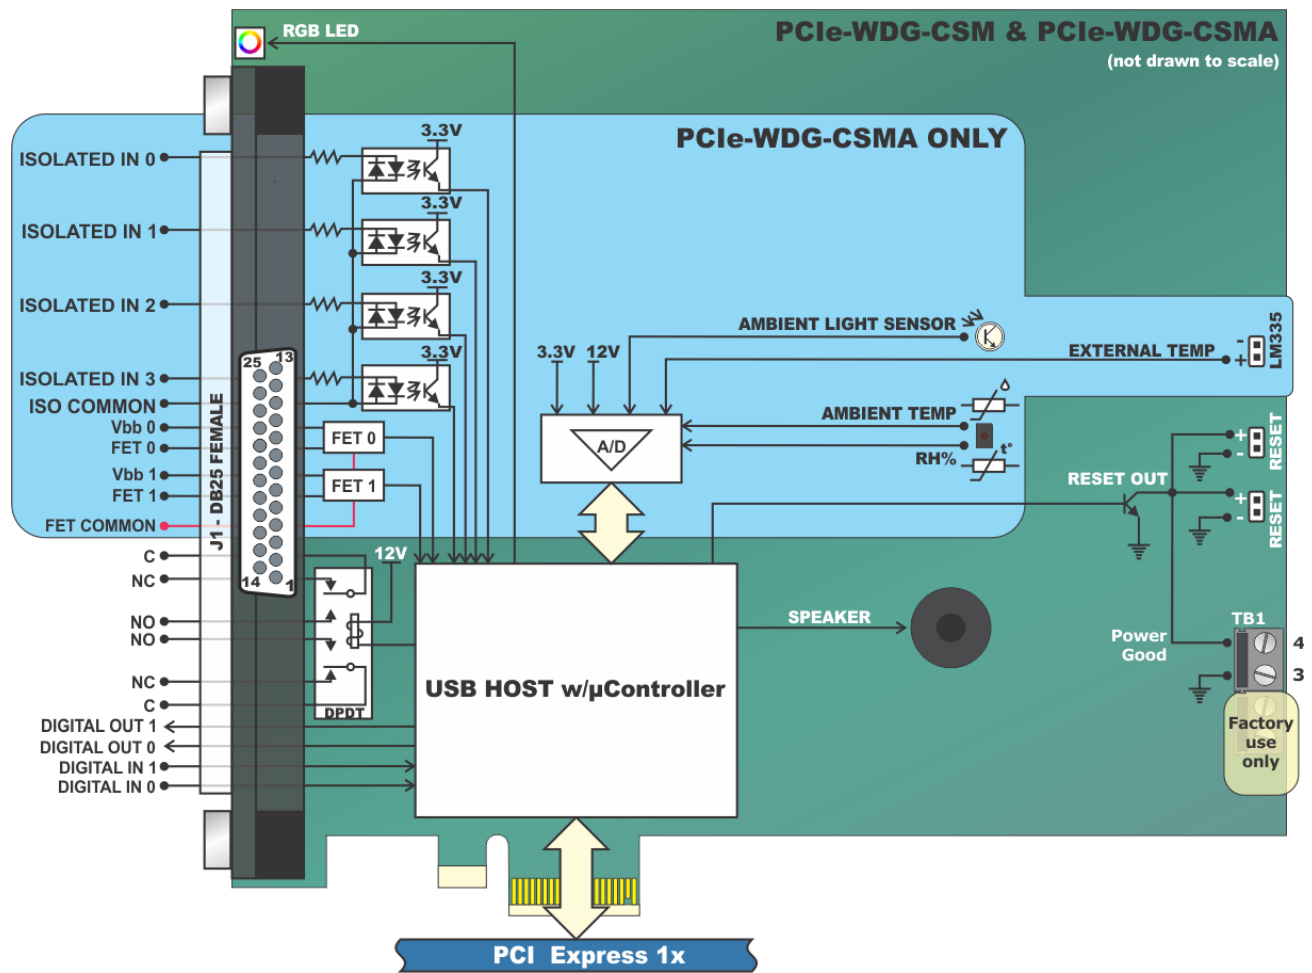
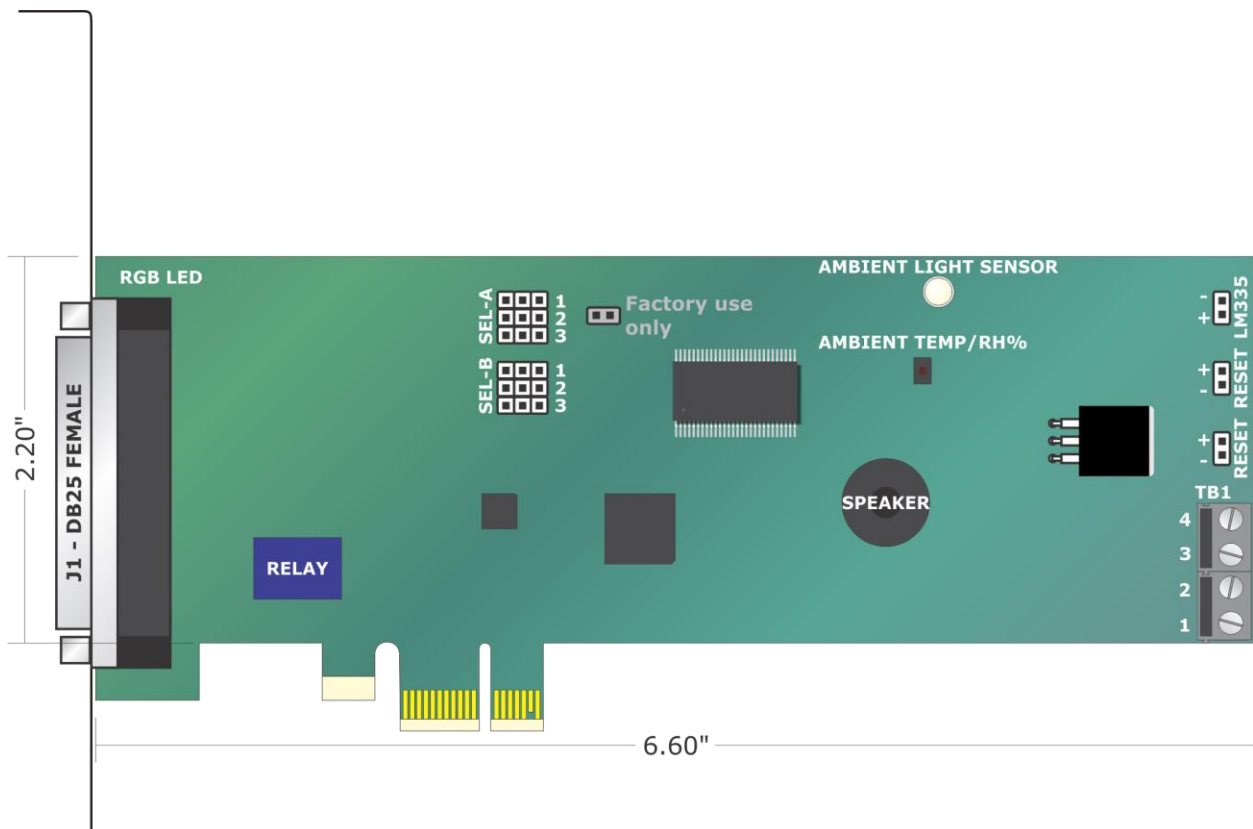

Figure 1-1: Block Diagram
Figure 3-1: Option Selection
- Figure 1-1: Block Diagram 7
Refer to Figure 1-1, Block Diagram and Figure 3-1, Option Selection Map when reading this section of the manual. Card operation is determined by jumper installation as described in the following paragraphs.